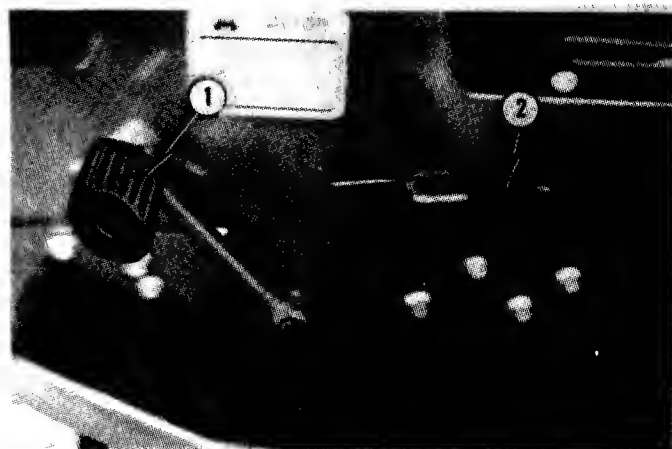
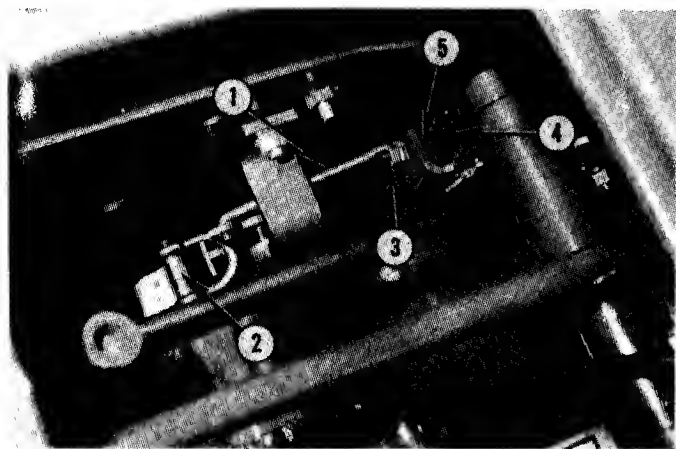

FIG. 3.16--1600 CLUTCH/BRAKE PEDAL RELEASED
FIG. 3.17--1600 BRAKE ADJUSTMENT POINTS
3. With clutch-brake pedal, No. 1, Fig. 3.16, in up position, increase clearance between bolt head, No. 5, Fig. 3.17, and brake arm, No. 4. Repeat Step 1 and readjust if necessary. Tighten jam nut, No. 3.